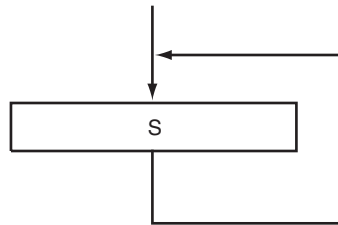

Figure 2.5 ■ An infinite loop
1. **Do statement S forever.** This is an infinite loop in which the statement S will be executed forever. In some applications, the user may add the statement “If C then exit” to get out of the infinite loop. An infinite loop is illustrated in Figure 2.5.